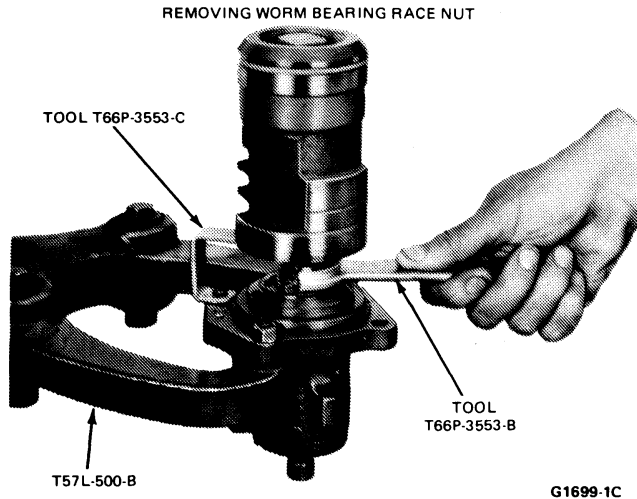

FIG. 3 Removing or Installing Worm Bearing Race Nut
housing. Remove the worm bearing race nut as shown in Fig. 3.
4. Install the race nut in the housing and torque to specification (Fig. 3).